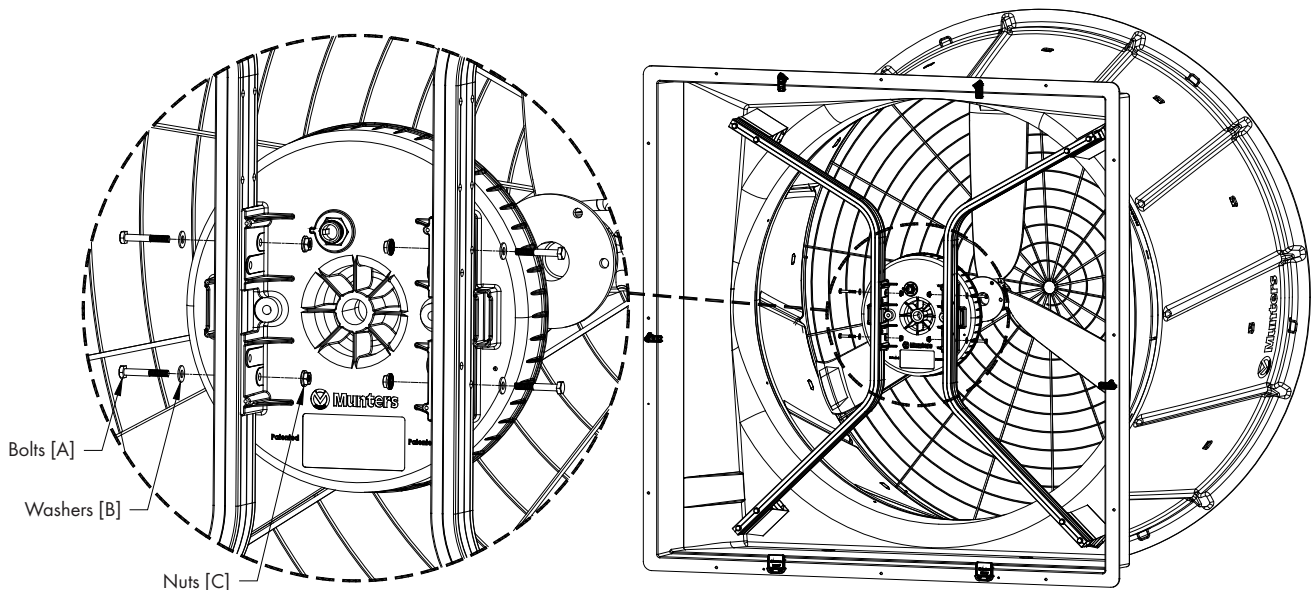

Figure 8B
For fan with a New Controller, carefully lift motor into place with the mounting flanges between the struts and secure in place using (4) Bolts [A], Washers [B] and Nuts [C] in the outer holes closest to the motor. See Figure 8B.